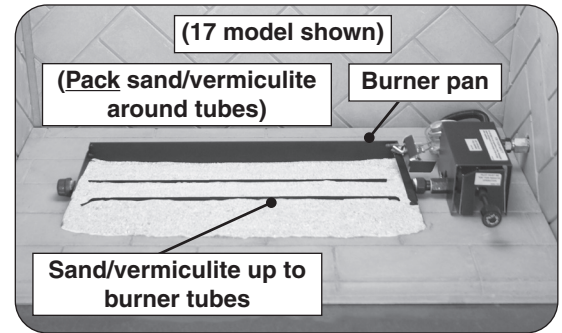

Fig. 21-1 Place sand/vermiculite
1. Partially fill the burner pan with the sand/vermiculite until it rests at a level toward the top of the burner tubes as shown in Fig. 21-1.